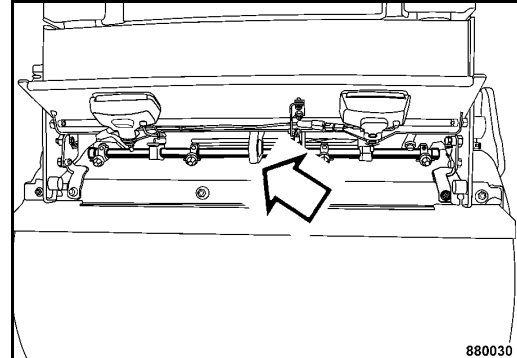

Fig. 115
- Lash the machine down, so that it is secured against rolling, sliding and turning over. Use the lashing eyes (Fig. 115) on front and rear frame for this purpose.